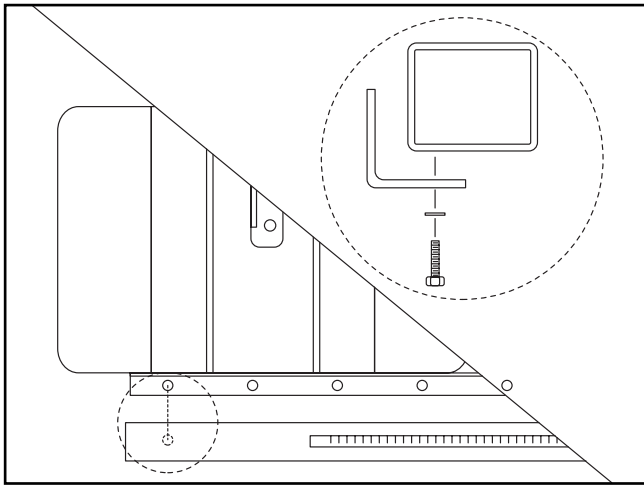

Figure 10A. Attaching fence tube to front rail.
4. Attach the square fence tube to the front rail using the hex bolts and lock washers supplied. See **Figure 10A**.